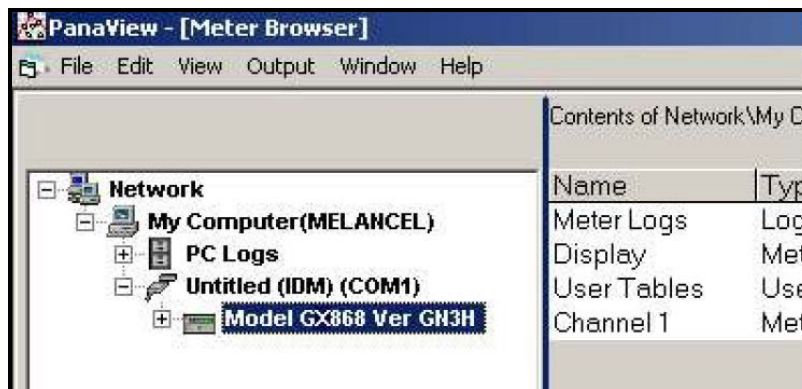

Figure 23: The Updated Network Tree
If the initialization is successful, the Meter Browser shows a listing similar to *Figure 23* below.
1. Highlight the meter (as shown in *Figure 23*).